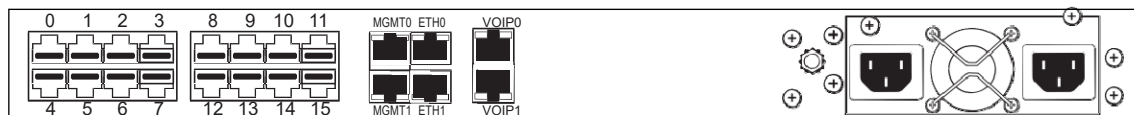

Figure 2.4
1. Start with port 0 located at the top and leftmost position. Connect one cable between this port and the T1/E1 line. See figure 2.4 on page 16.